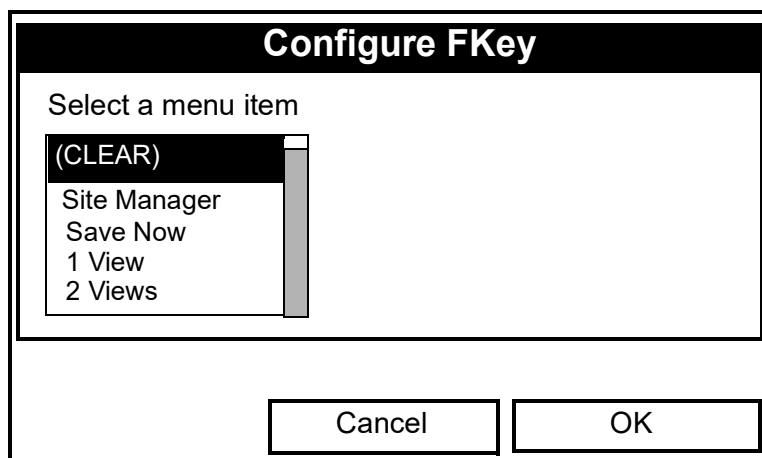

Figure 94: The Configure FKey Window
3. Use the [▼] or [▲] arrow keys to move to the desired FKey (1, 2 or 3) entry on the menu. Press **[ENTER]**. The Configure FKey window opens, as shown in Figure 94.